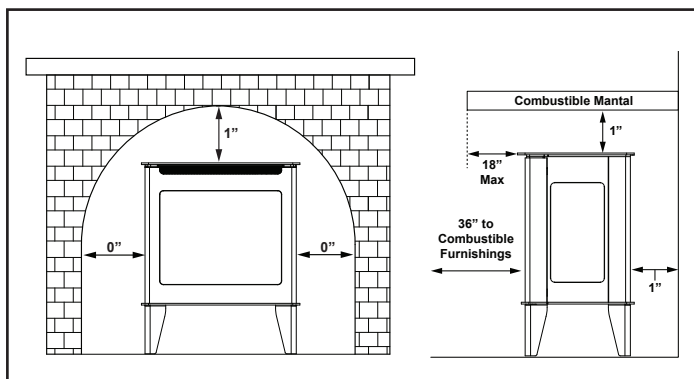

Figure 3.3 - Alcove and Combustible Mantle Clearances
Reference Figure 3.3 for minimum alcove and combustible mantle clearances.
- Mantels.....See Figure 3.3